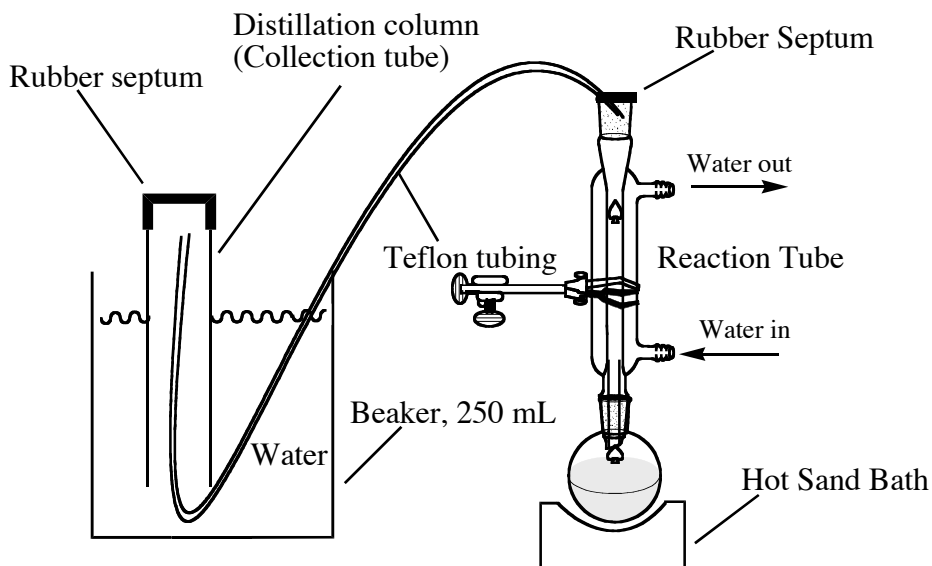

Fig. 2: Assembly for the Generation of Gaseous Products
Assemble the gas collection apparatus shown in **figure 2** below *before the reactants are mixed* by carrying out the following steps:
- (1) Fit the collection tube with a septum stopper in one end.
- (2) Fill the collection tube with water,
- (3) Insert the end of the Teflon tubing that is coming out from the top of the septa into the collection tube all the way up to reach the stopper.
- (4) Place your index finger over the top end of the tube and invert it (water should remain in the tube.)
- (5) Place the tube, with the open end down, into a 250-mL beaker half-filled with water.
- (6) Remove your finger (the column of water should remain in the tube.)
- (7) In a 10 mL round-bottom flask equipped with a water-cooled condenser, place 5 mL of 1M potassium *t*-butoxide (or 575 mg of potassium *t*-butoxide powder and 5 mL of *t*-butanol) using the Automatic pipette. Add a boiling stone to the flask.
- (9) Connect the other end of the Teflon tubing to the top of the water-cooled condenser as shown in figure 2.